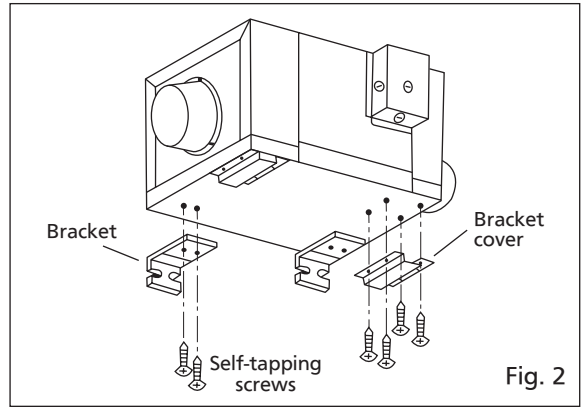

Fig. 2
3. After confirming the direction that the unit will be facing, attach the bracket and bracket cover to the unit with self-tapping screws. (Fig.2)
The holder was assembled on the back side of the unit. (no shown in Fig.2)